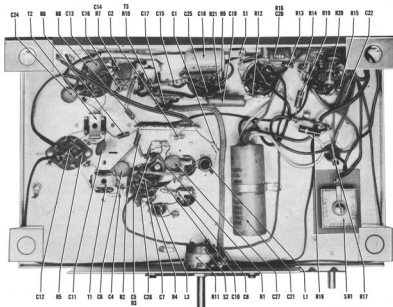

Fig. 5. Bottom View of Chassis Showing Component Location
2. Connect two 470,000 ohm resistors in series from pin 2 of V-4 to the chassis. Connect the common lead of the VTVM to the center tap of the two resistors and the probe to the junction of R-10 and C-17. (Refer to the schematic diagram and Fig. 5.) Adjust A for a zero reading between a positive and negative peak. The two peaks should have approximately the same amplitude. If not, readjust B slightly.